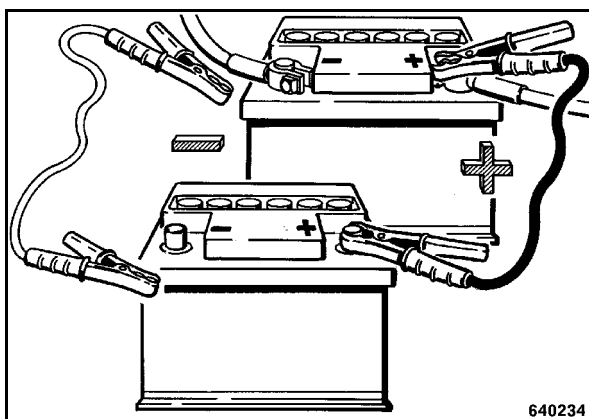

Fig. 48
- When starting with an external battery connect both plus poles (Fig. 48) first and both minus poles (earth cable) after.